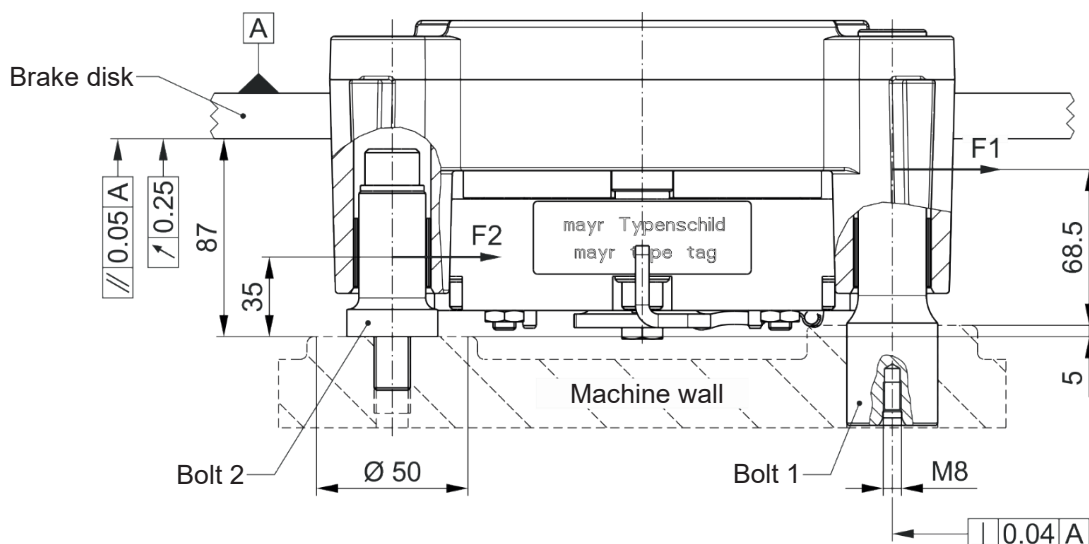

Fig. 7
- ❑ Please keep to the distance of 87 mm (Fig. 7) between the screw-on surface of guide bolt 2 and the brake disk.
- ❑ The screw-on surface of guide bolt 2 in the $\varnothing 50$ mm range (Fig. 7) must be 0.04 mm parallel to the brake disk.
- ❑ The transverse force (Table 3) occurs on the guide bolt of the bearing bushing 1 (3.1). The lever arm which is responsible for the effect on the guide bolt is 30 mm long for guide bolt 1 and 68.5 mm long for guide bolt 2 (Fig. 7).
1. Press in the guide bolt 1 (11) and screw it on from the back via the thread M8 (Fig. 7) with a **tightening torque of 24 Nm**. Please make sure that guide bolt 1 (11) is inserted into the bore up to its limit.
2. Insert guide bolt 2 (12) into the brake caliper (3).
4. Push the released brake over guide bolt 1 (11) and slew it over the brake disk.
5. Insert the cap screw (13) with mounted washer (14) into guide bolt 2 (12) and screw the brake onto the machine wall. **Tightening torque 210 Nm, screw securement with Loctite 243!**
Transverse Forces (Fig. 7 / at max. Spring Force)